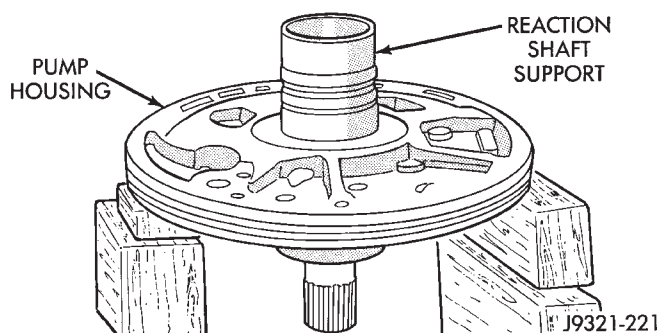

Fig. 147 Assembling Reaction Shaft Support And Pump Housing
(8) Install reaction shaft support on pump housing (Fig. 147).
(9) Align reaction support on pump housing. Use alignment marks made at disassembly. Or, rotate support until bolt holes in support and pump housing are all aligned (holes are offset for one-way fit).
(10) Install all bolts that attach support to pump housing. Then tighten bolts finger tight.
(11) Tighten support-to-pump bolts to required torque as follows: